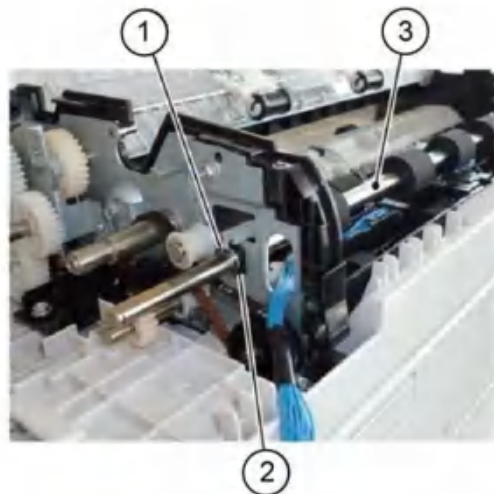

Figure 9 Takeaway roll removal
15. Remove the rear bearing, then the DADF takeaway roll, Figure 9:
- Remove the E-clip (1).
- Remove the bearing (2).
- Remove the DADF takeaway roll (3).